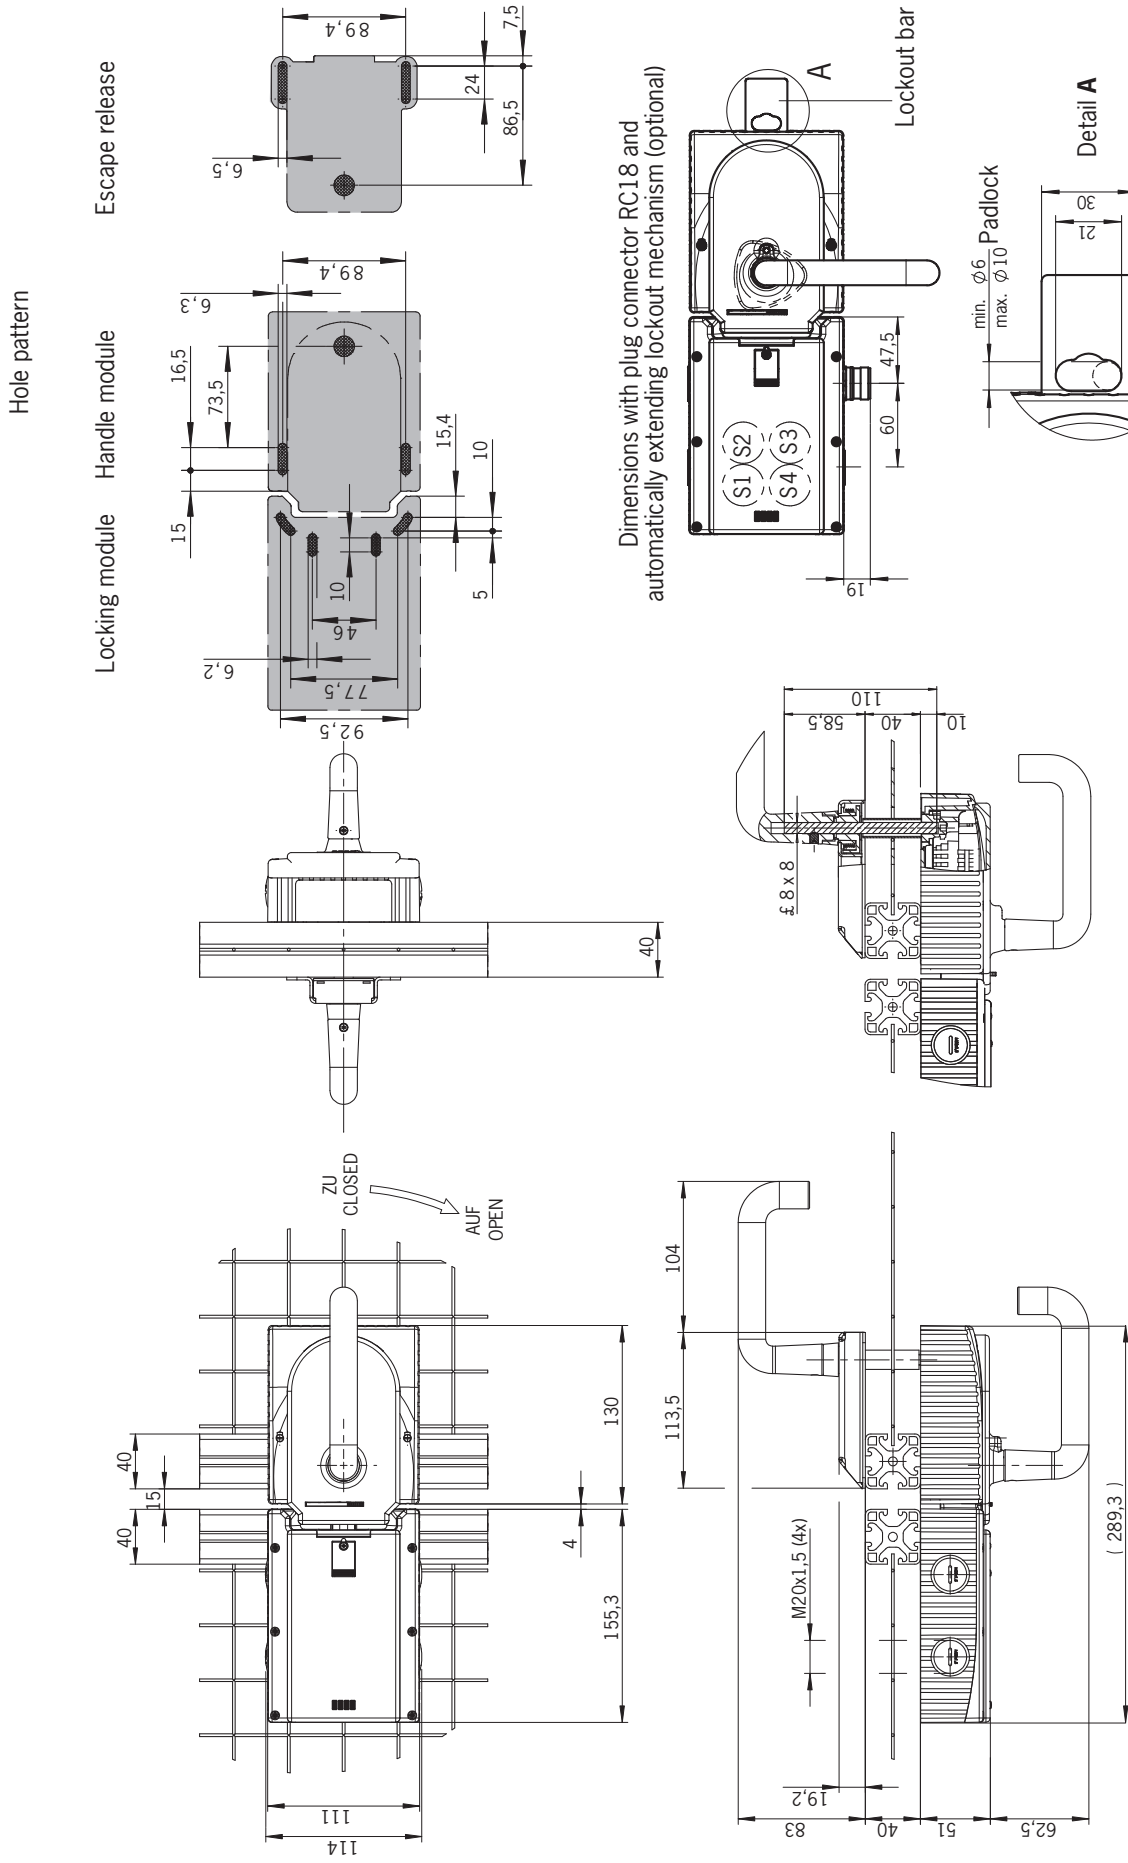

Figure 4: Dimension drawing MGB fitted, without optional mounting plates
- Align escape release axis at right angles to the handle module. See Figure 4 and 8.